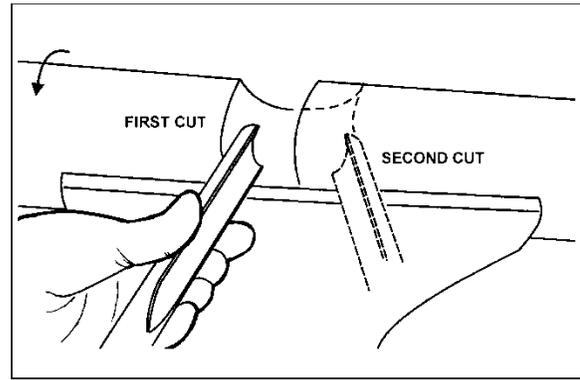

Figure 31
1. Use a spindle gouge. With the flute of the tool at 90 degrees to the workpiece, touch the point of the tool to the workpiece and roll in towards the bottom of the cove. See Figure 31. **Stop at the bottom; attempting to go up the opposite side may cause the tool to catch.**